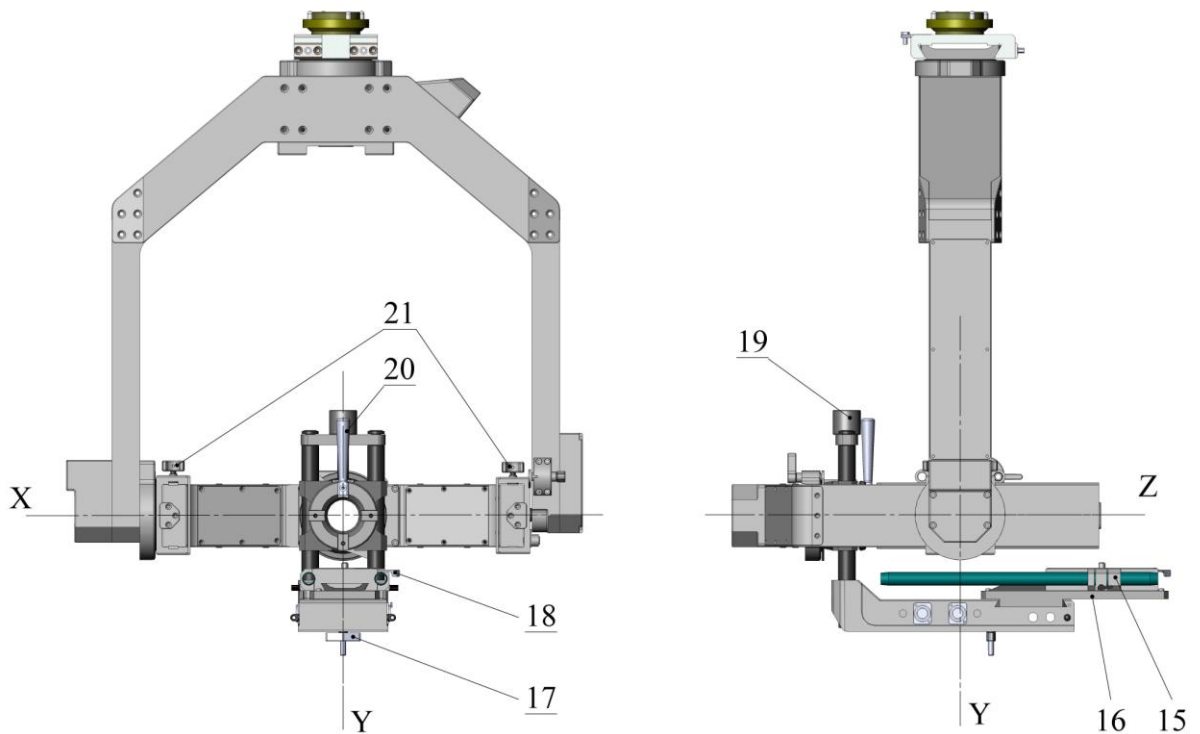

Fig. 2
4.2. Mount the camera on platform (15) (fig. 2)